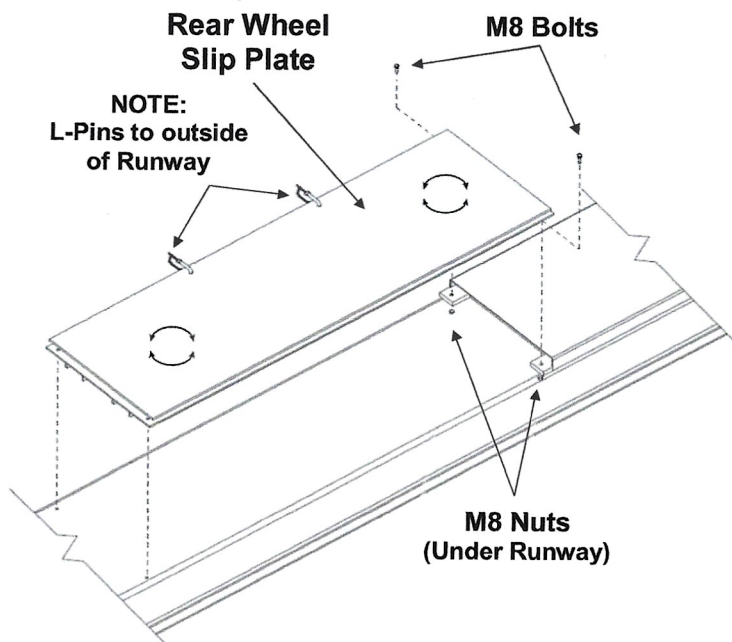

Fig. 6
- 7) Carefully, center and square the Rear Wheel Slip Plate (#6) on Runway - Fig 6. **NOTE: Slip Plate Tabs to be positioned above the top of the Long Spacer Tabs. Also Ensure Pins are positioned to the outside of Runway.**
- 8) Remove the Slip Plate L-Pins to gain access to the front holes by angling the front of the Slip Plate. Align the Slip Plate holes to the Tab Holes for the Long Spacer & Runway, secure using M8 Bolts & Nuts noted for - Fig. 6. **NOTE: DO NOT Bolt the back end of Slip Plate at this time.**
10) Insert L-Pins back in Slip Plate holes to secure - Fig 6.